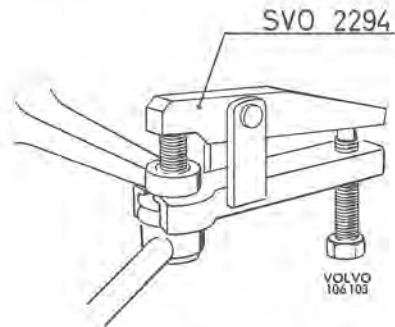

Fig. 6-15. Removing steering rod
3. Disconnect the steering rods from the steering arms with tool SVO 2294 according to Fig. 6-15.
3. Remove the steering rod from the steering arm with tool SVO 2294, see Fig. 6-15.
Disconnect the steering rod from the steering arm with tool SVO 2294, see Fig. 6-15, and remove the brake lines from the stabilizer bolt.